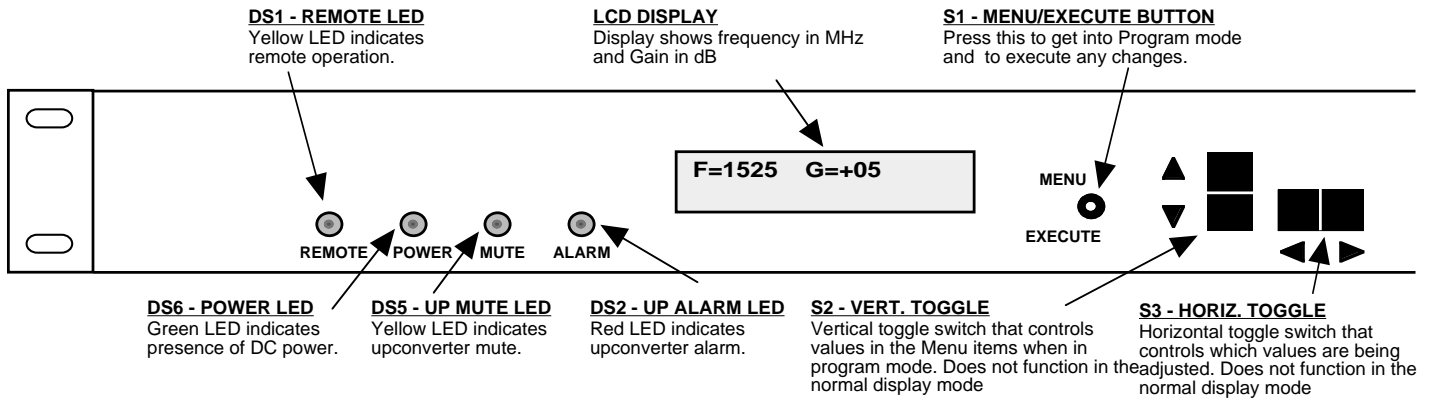

FIGURE 2.2 2015-03A Front Panel Controls and Indicators
7. Be sure DS6 (green, DC Power) is on and DS2 (red, Alarm) is off (Figure 2.2).
Alarm indications appear on the LEDs (see figure 2.2).